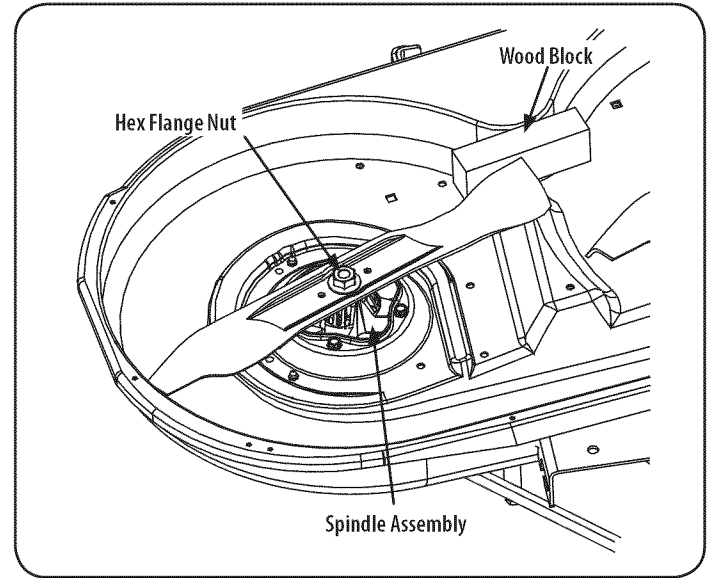

Figure 37
2. Use a $1\frac{5}{16}$ " wrench to hold the hex nut on top of the spindle assembly when loosening the hex nut securing the blade. A block of wood may be placed between the deck housing and the cutting edge of the blade to help in breaking loose the hex nut securing the blade. See Figure 37.